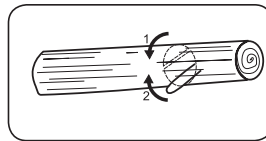

Fig. 12C
3. Log supported on both ends: First, over buck 1/3 diameter of log to avoid splintering. Second, under buck to meet first cut and avoid pinching (Fig. 12C).